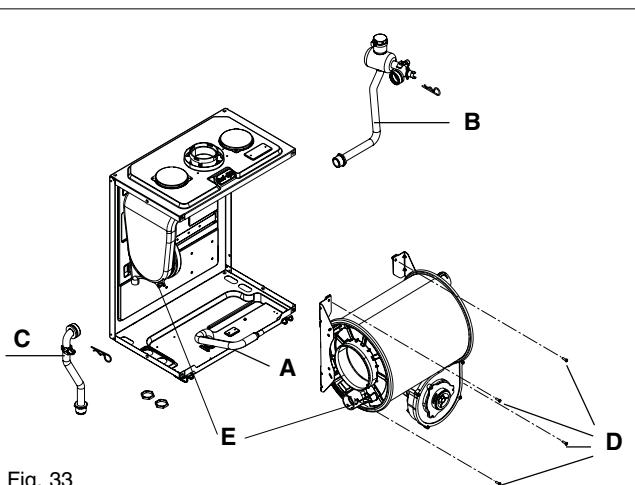

Fig. 33
6.16 MAIN HEAT EXCHANGER (fig. 33 & 34)
Fig. 33: Slacken the gas pipe (**A**) at the air box connection and swing/rotate of the fan assembly. Disconnect the flow (**B**), return (**C**) and condense connections on the heat exchanger. Locate and remove the 4-screws that secure the heat exchanger to the combustion chamber (**D**). Move the heat exchanger to the right and disconnect it from the flue collector (**E**). The heat exchanger can now be lifted up and withdrawn from the appliance.